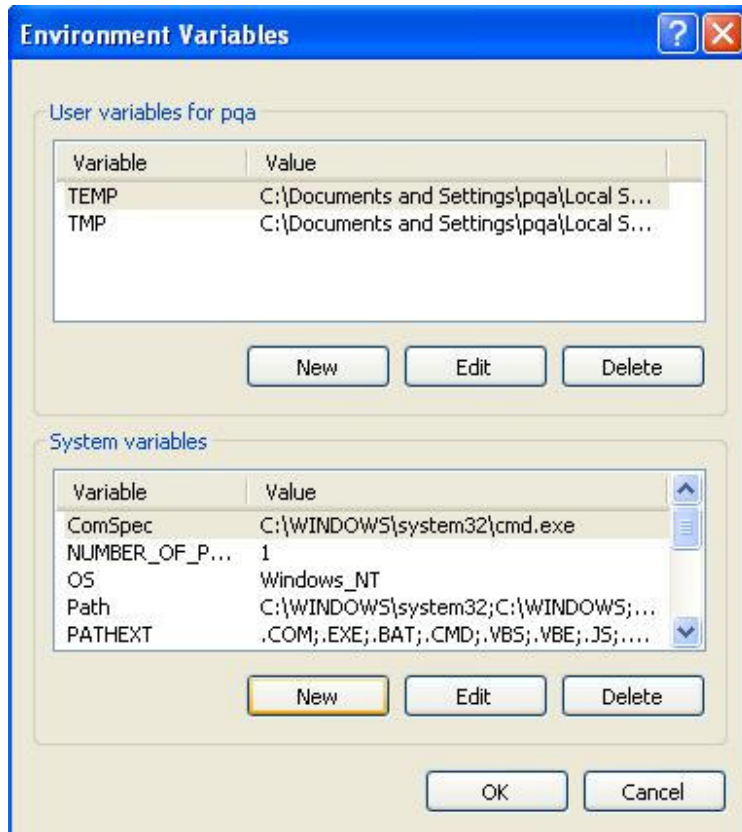

Figure 3-15. EMS server environment-4
4. Find System Variables on Environment Variables Dialog as Figure 3-15